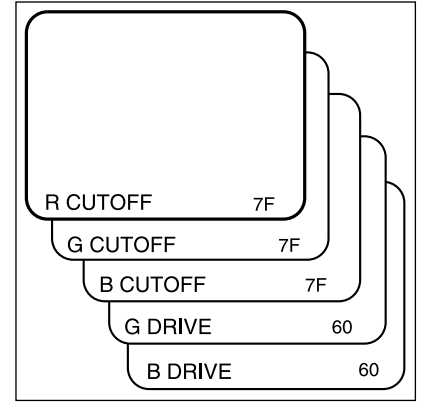

Fig. 2-1
- 2-2. Using the volume keys on the jig remote controller, fix the figure of the strongest color on the screen to 7F and adjust the other 2 cut off figures until a white picture appears on the screen. (Fig.2-1)